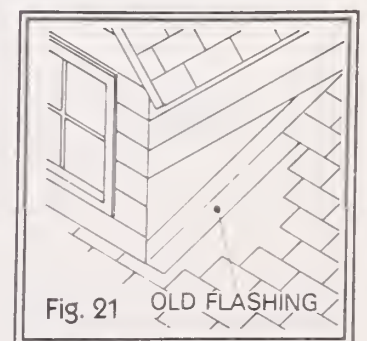

Fig. 21
2. Now remove each overlapping strip of shingles along the wall to fully expose the flashing (fig. 21). Clean the area free of all debris.